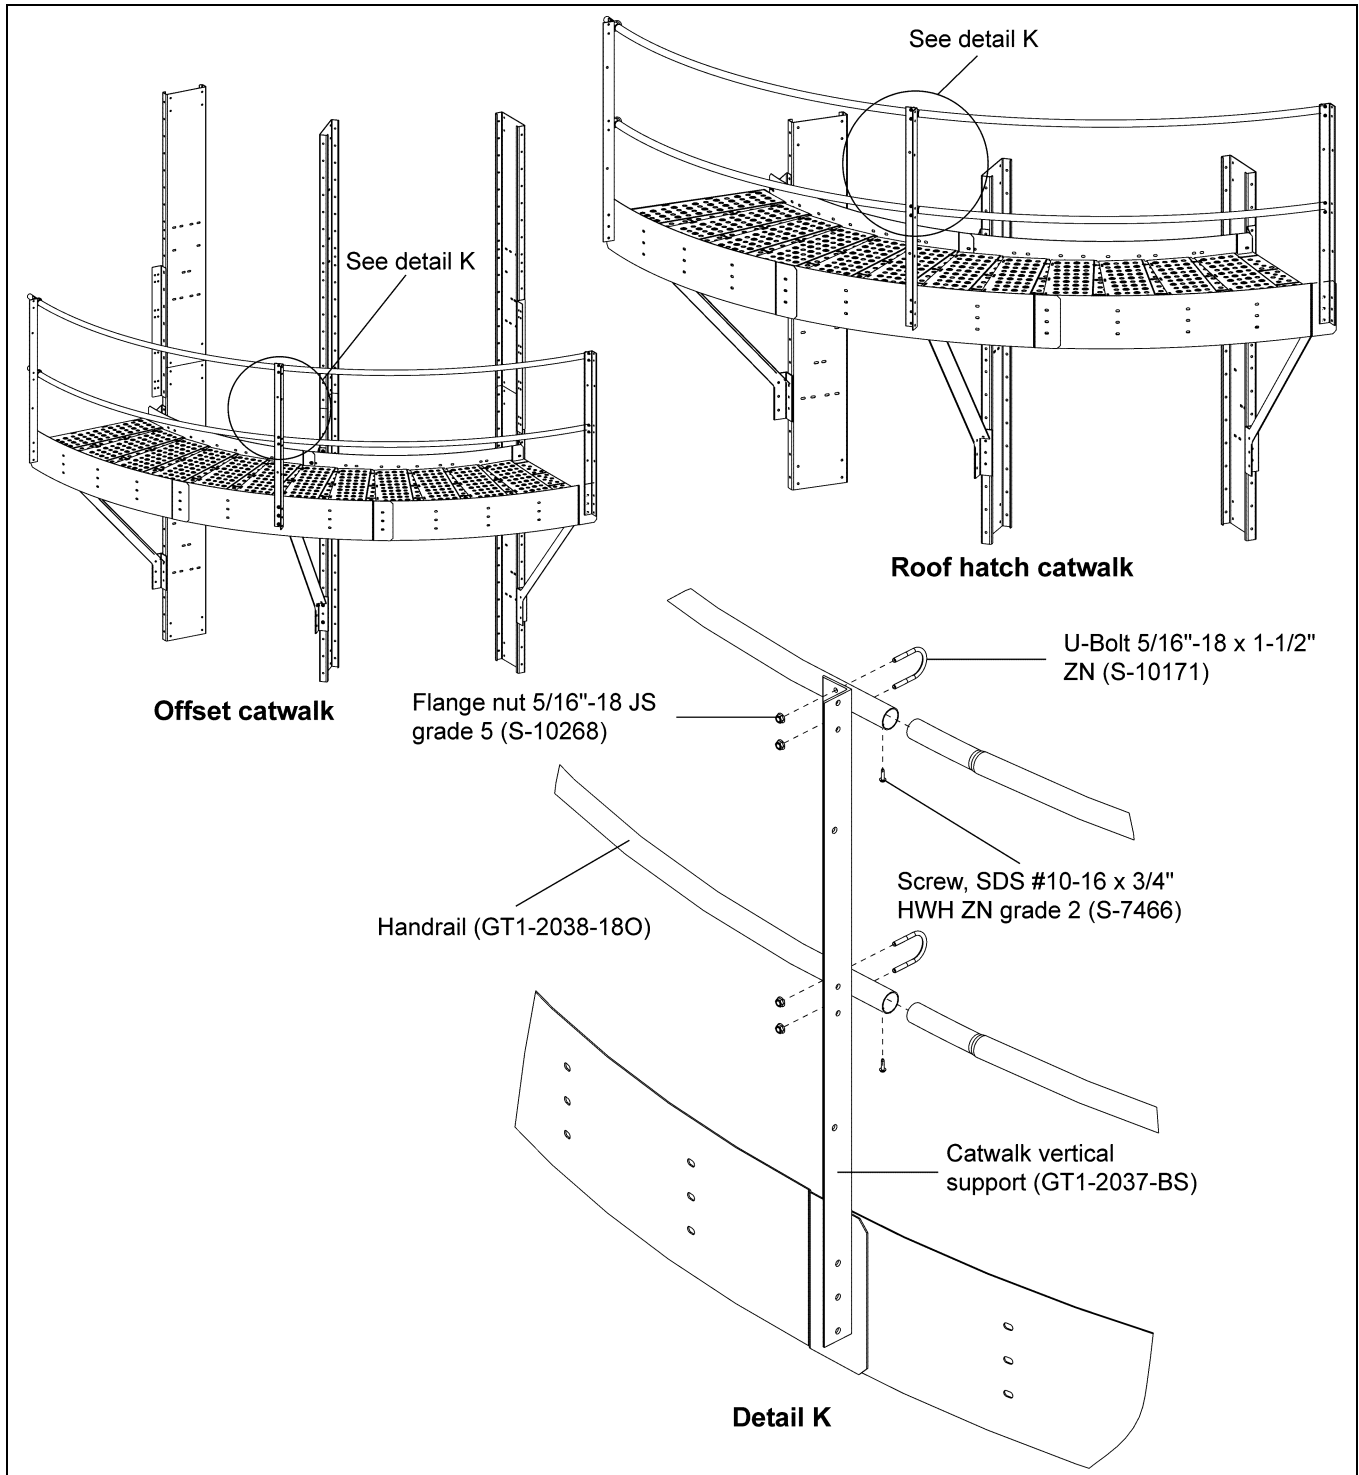

Figure 6U Handrail (GT1-2038-180) Installation for Offset and Roof Hatch Catwalks
1. Install the long handrail (GT1-2038-180) to the catwalk vertical support (GT1-2037-BS) using 5/16"-18 ZN U-bolts (S-10171) and 5/16"-18 JS grade 5 nuts (S-10268) to tighten the handrail with vertical post. (See Figure 6U.)
2. Use the self-tapping screw SDS #10-16 x 3/4" HWH ZN grade 2 (S-7466) at all handrail pipe joints. (See Figure 6U.)